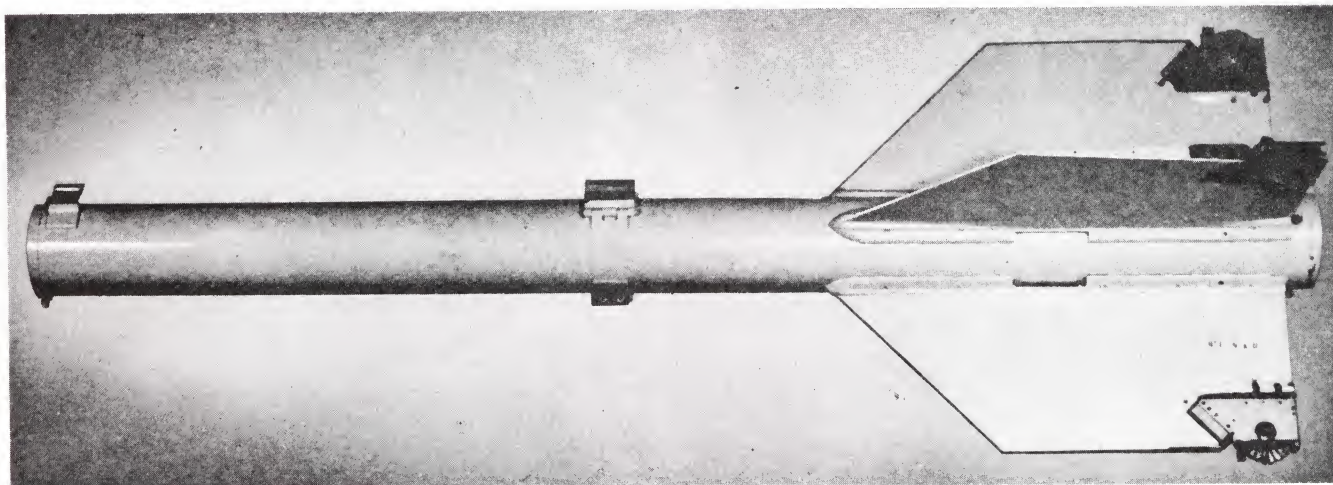

Figure 2-5. Motor Mk 36.
The Mk 36 rocket motor, figure 2-5, is about 70 inches long, is 5 inches in diameter, and weighs about 99 pounds. With wings attached, the wing span is about 25 inches and the weight is increased to about 123 pounds. The major components of the motor are the motor tube, propellant grain, igniter, and nozzle.
**2-4.3 HAZARDS OF ELECTROMAGNETIC RADIATION TO ORDNANCE (HERO).** The Mk 36 motor contains a radio interference filter that protects it from being accidentally ignited by RF energy. The missile may be operated under the general HERO restrictions for all ordnance given in NAVWEPS 16-1-259 (Latest Revision), item 7 of paragraph 1-12.
**2-4.4 WING ASSEMBLY.** Four wings are attached to the aft end of the motor (see figure 2-5). Each wing has a rolleron that is protected by a plastic cap. The caps are removed just before aircraft takeoff.